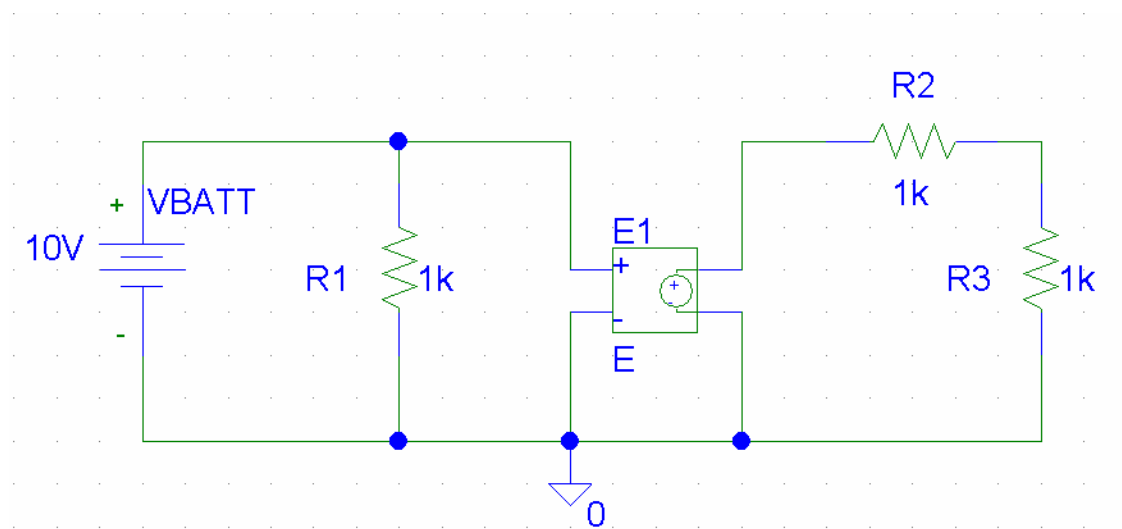

Figure 2 – PSPICE Schematic of a Voltage-Controlled Voltage Source
- ❑ Create the voltage-controlled voltage source shown in Figure 2 below. (Note: E1 is called **E** in the parts list; and the analog ground is called **AGND**)
- ❑ Next, you will use what you have learned to create the inverting op-amp shown in Figure 2 below.